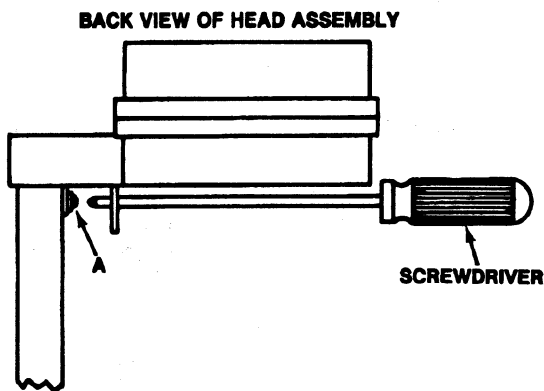

Figure 1
1. Loosen Screws A (See figure 1).